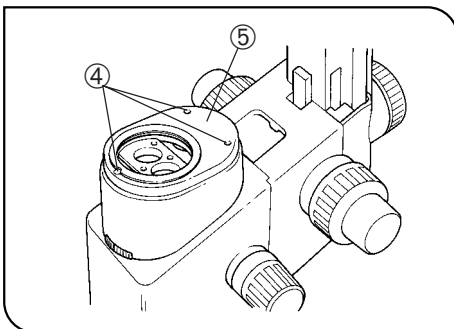

Fig. 32
1. Attach the hand guard ② to the revolving nosepiece ① by tightening the provided 2 clamping screws ③ (M3 — 4 mm long) using the provided Allen wrench (for M3 screws). (Fig. 32)
4. Remove the objective from the zoom microscope body and remove the objective mount ⑤ by loosening the 3 clamping screws ④ using the provided Allen wrench (for M3 screws). (Fig. 32)